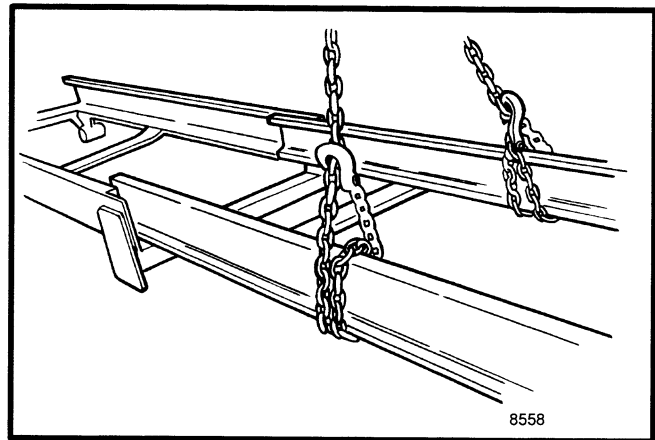

FIGURE 7. REMOVAL OF INNER WELDMENT
9. Slide the inner weldment half way out the top of the outer weldment. Connect a crane to the center of the inner weldment. See FIGURE 7. Slide the inner weldment away from the outer weldment until its lower stub shafts are in the notches of the outer weldment. Remove the inner weldment.